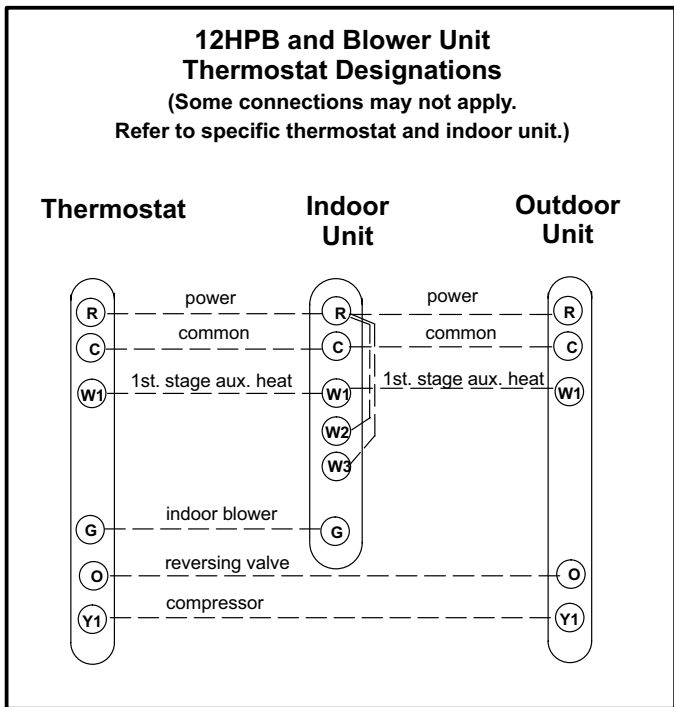

Figure 5
- 4 - Install low voltage wiring from outdoor to indoor unit and from thermostat to indoor unit. See figures 5 and 6.